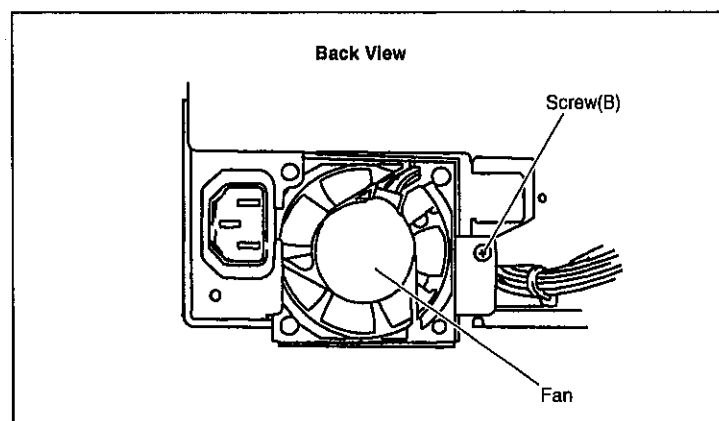

Fig. 8-28
- 3) Remove screw(B), as shown in Fig. 8-28.